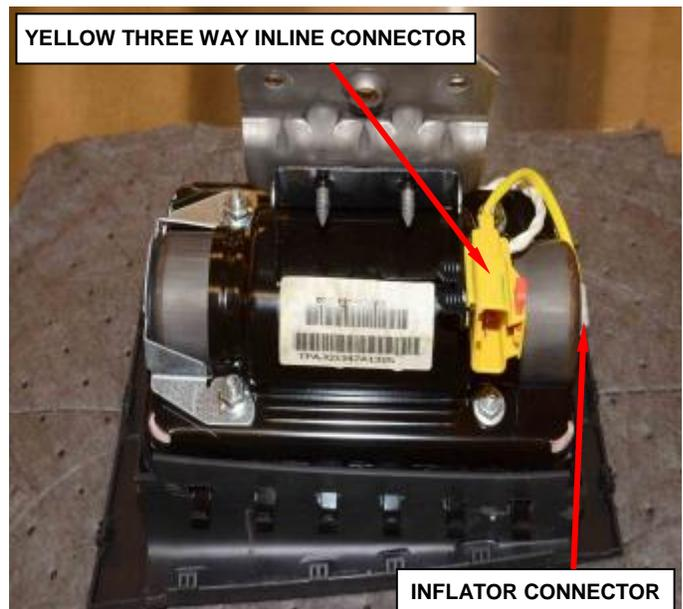

Figure 85 – Inflator Connectors
- c. Disconnect the single yellow wire inflator connector from the end of the inflator using pliers (Figure 85).
- d. Remove the yellow three way inline connector from the housing bracket (Figure 85).